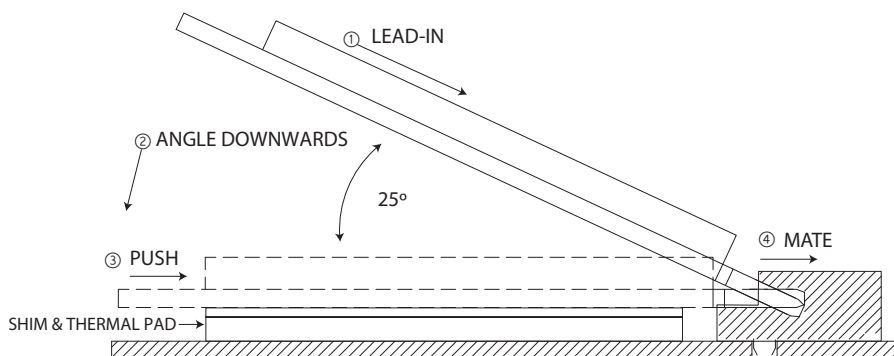

Figure 5: Module insertion
- f. Insert the EM7511 module into the connector on the adapter board as shown in Figure 5 (insert the module at a 25° angle, bring downwards, and push fully into the connector).